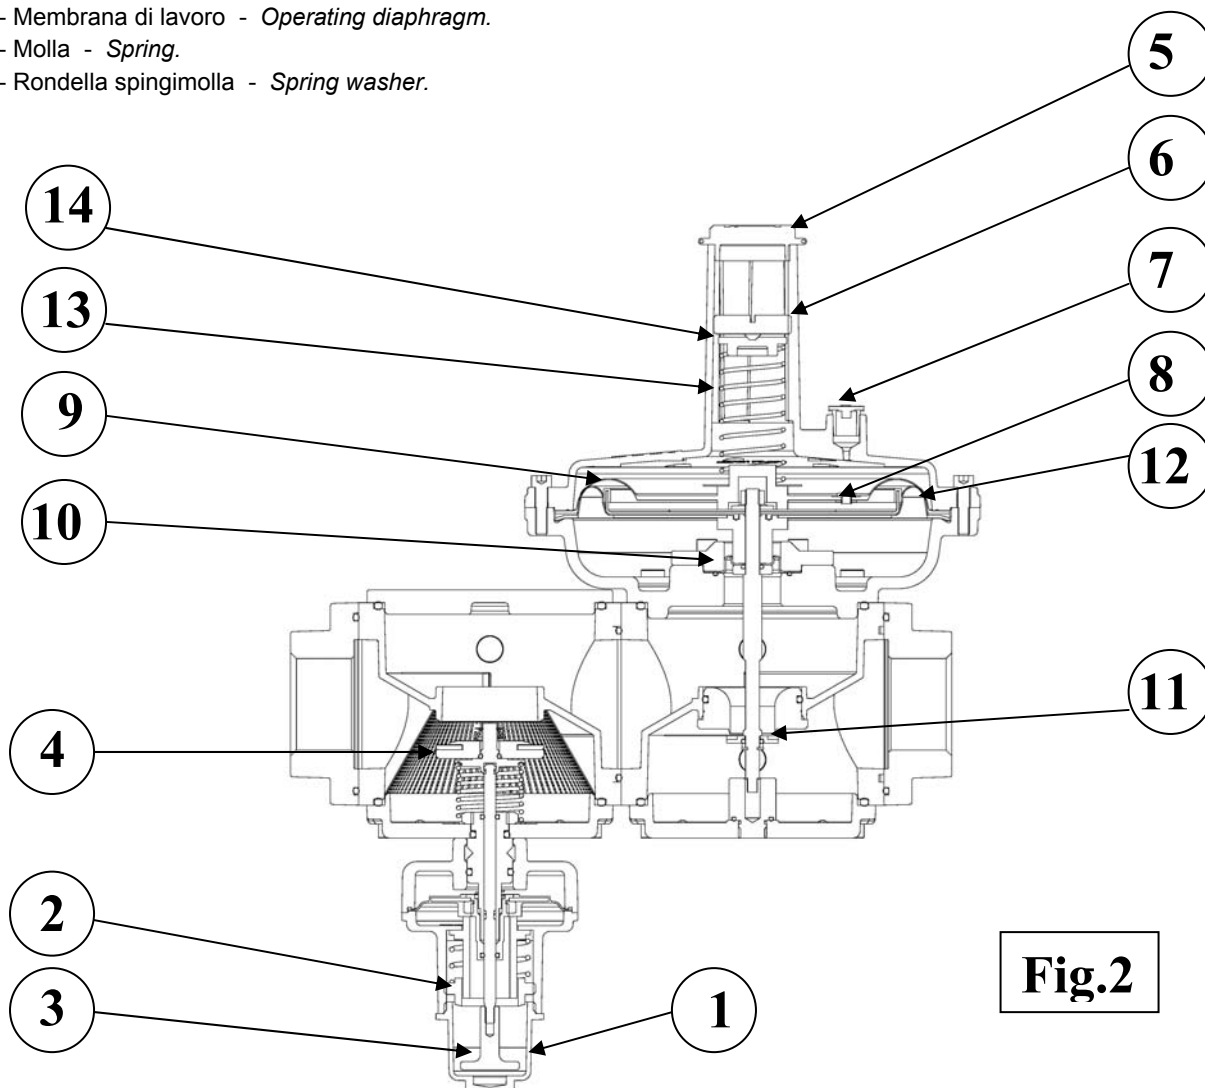

Fig.2
The outlet pressure can be set by means of a set-screw (6 Fig.2); by turning clockwise this set-screw the pressure is increased and by turning it anti-clockwise the pressure is decreased.
The pressure test points upstream and downstream the governor allow the reading of the relative pressures, passing from one family of gas to another, choosing the most suitable spring and adjusting the set-screw (6 Fig.2). The stabilized pressure should be checked with a pressure gauge. After setting, replace the upper cap (5 Fig.2).
- Remove the lower plastic plug (1 Fig.2);
- Screw completely the plastic screw with (2 Fig.2) a bush key.
- Reset the shut off system pulling the handgrip (3 Fig.2);
- Turn the adjustment screw (2 Fig.2) anticlockwise until the shut off is activated.